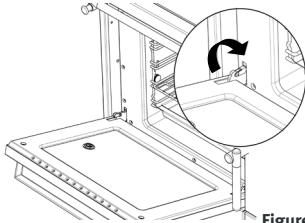

Figure 40
- Fully open the oven door slowly. Again fold back the clips on the door hinges. Close the oven door (Figure 40).